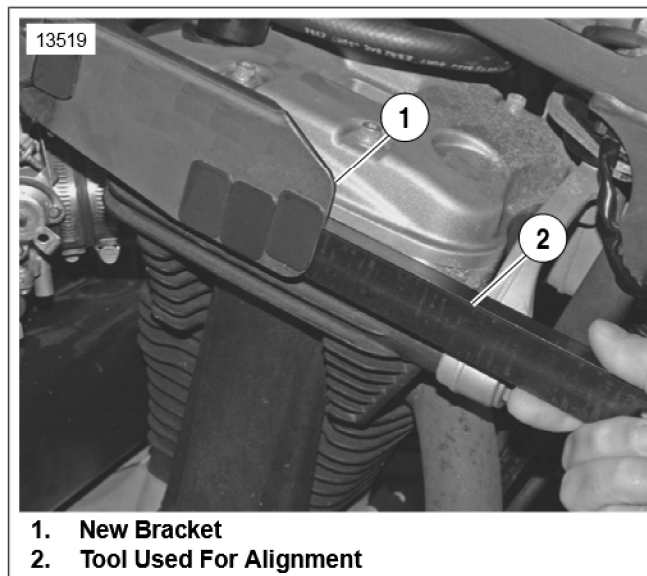

**Figure 1. Existing Bracket**
3. See Figure 1. Remove existing bracket (1) from tie bar (2). Discard old nut and retain screw for assembly.